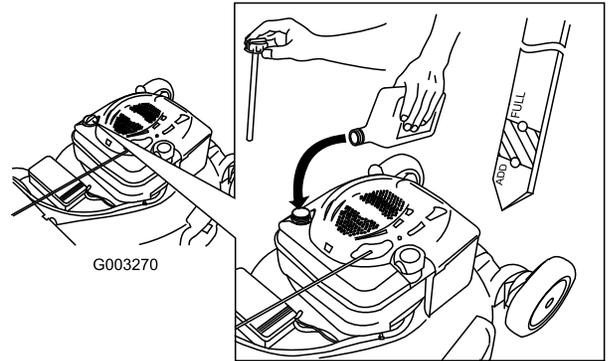

Figure 13
1. Remove the dipstick, wipe it clean, and fully install the dipstick (Figure 13).
2. Remove the dipstick and check the oil level (Figure 13). If the oil level is below the Add mark on the dipstick, **slowly** pour oil into the oil fill tube to raise the oil level to the Full mark on the dipstick. **Do not overfill.** (Max. fill: 20 oz. (0.59 l), type: SAE 30W detergent oil with an API service classification of SF, SG, SH, SJ, SL, or higher.)